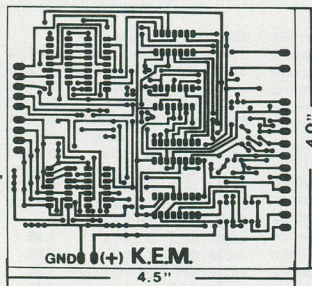

Fig. 1 Sample artwork (Solder side)
- 1) Using black ink, tapes, letterings, draw your artwork on white paper or clear drawing film, taking care to letter clearly. Put the dimensions on the artwork in at least two places as shown in Fig. 1.
### SAMPLE ESTIMATE FOR FIG. 1